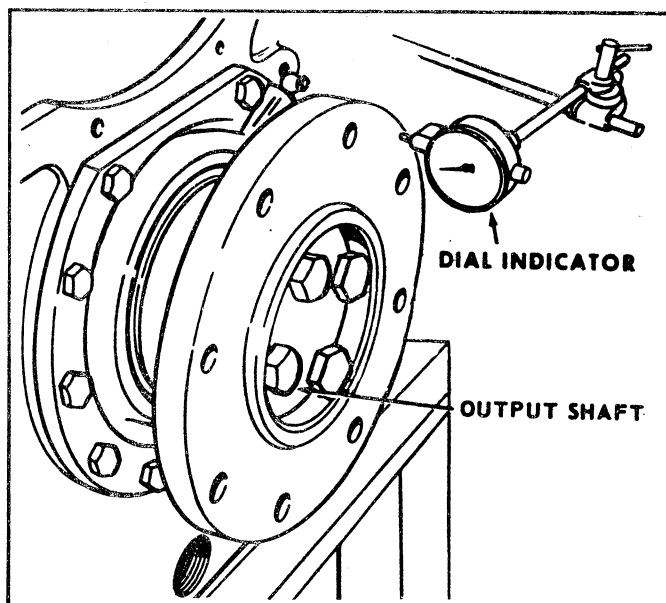

Figure 9-18. Checking race runout of output flange.
5. If the alignment varies during rotation, then further alignment is necessary, or the marine transmission and shaft couplings should be checked for improper face runout. See Figure 9-18 and 9-19. Runout must not exceed 0.004 inch. Face runout on the marine transmission output flange can usually be corrected by repositioning the coupling on its spline. Shaft coupling runout is usually due to inaccuracy of taper fit or key interference.